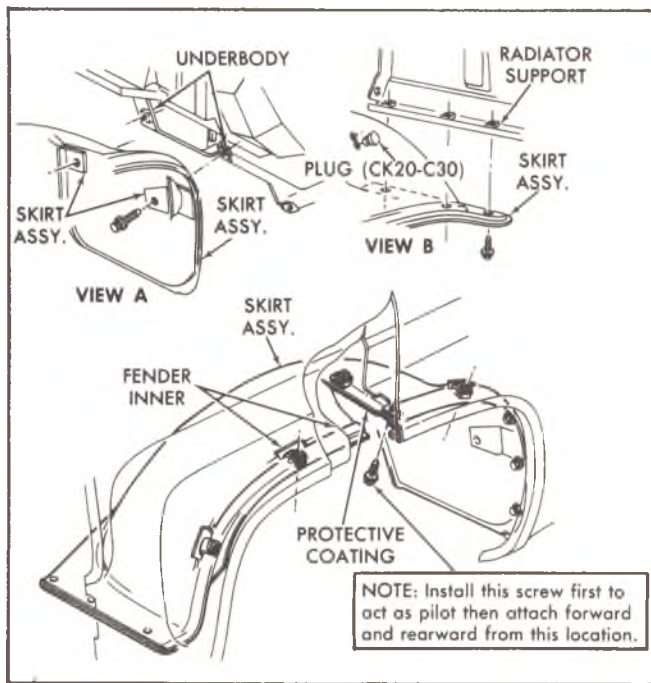

Fig. 9—Fender Skirt Assembly—CK Series
11. Remove screws securing fender skirts to radiator support bottom. (Fig. 9).